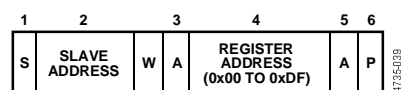

Figure 38. Setting a RAM Address for Subsequent Read
- To write a register address to RAM for a subsequent single byte read from the same address, or a block read or write starting at that address, as shown in Figure 38.